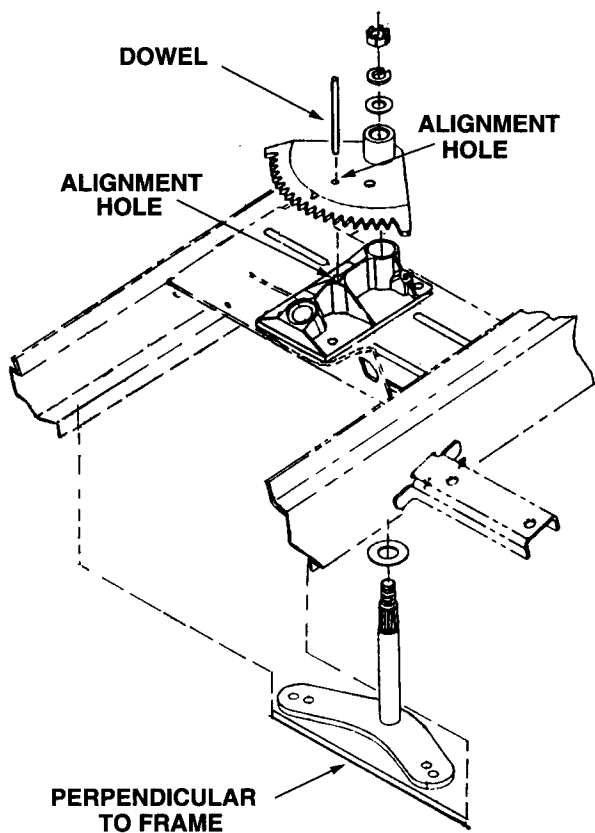

Figure 5-18. Aligning Steering Gear With Lower Steering Arm.
1. Install the steering housing (3) in the frame and secure with the hex wash. hd. tapp screws (6).
2. Install and align the lower steering arm (2) and the steering segment gear (1) as follows:
- a. With the teeth angled downward, position the segment gear (1) on the upper bearing of the steering housing.
- b. Insert a 1/4 inch dowel through the center hole of the gear, into the alignment hole of the steering housing (See Fig. 5-18).
- c. Place the flat washer (20) onto the lower steering arm.
- d. With the arms angled rearward and positioned perpendicular to the frame (Fig. 5-18), slide the steering arm up into the steering housing.
- f. Install the flat washer (19), lock washer (22), and hex slotted nut (9). Tighten the slotted nut to eliminate play, but do not overtighten.
- g. Install the cotter pin (13) in the appropriate slot of the nut.